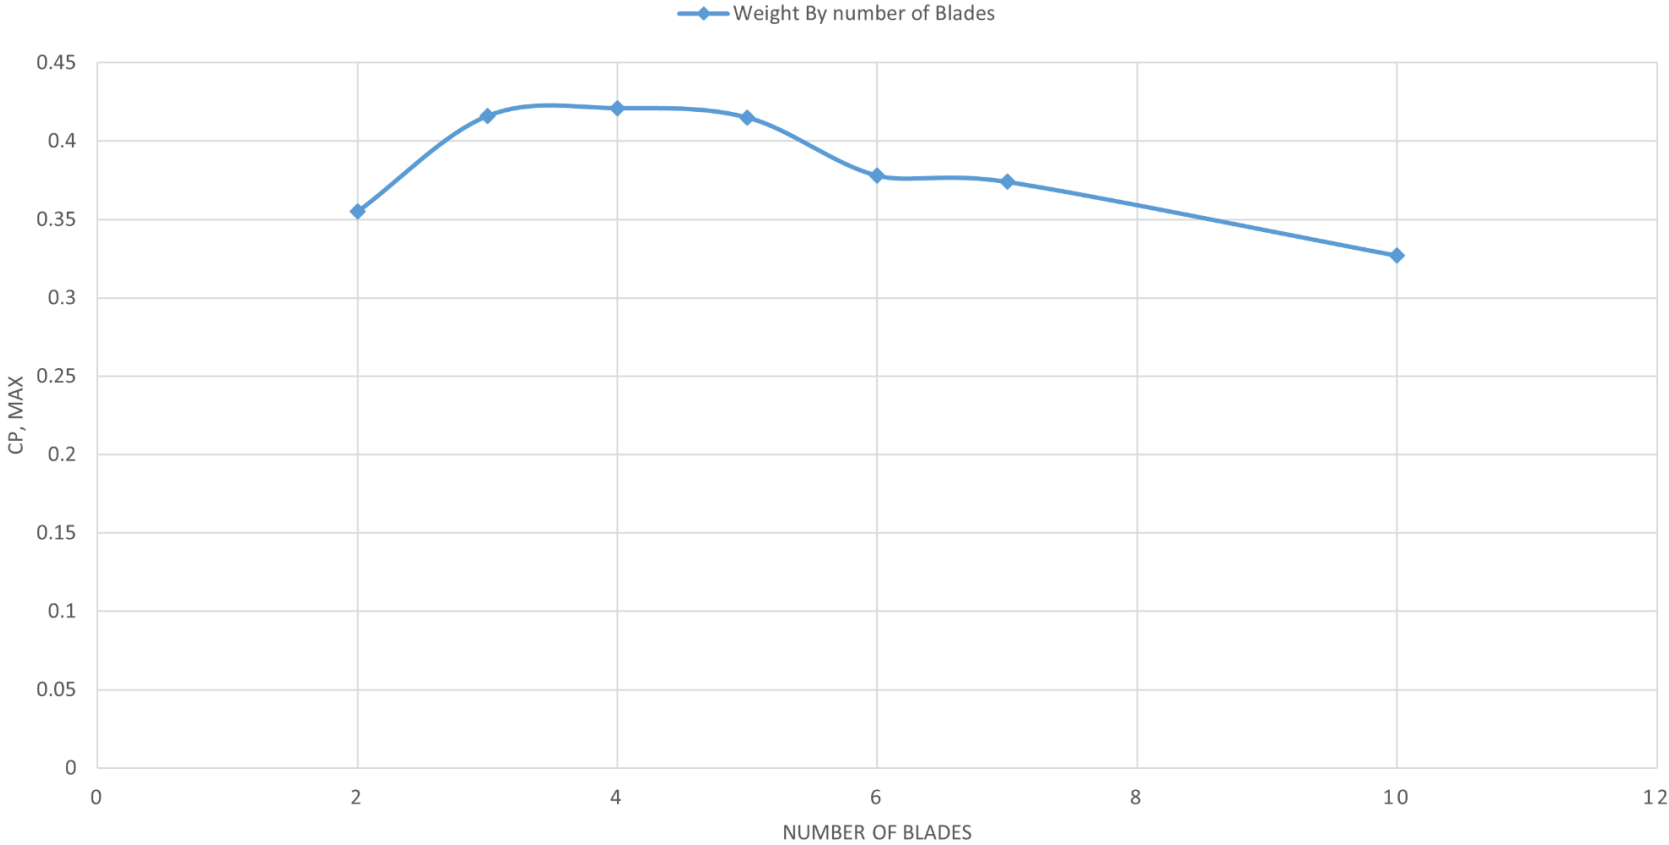

Figure 3
- The results are presented in Figure 2 and Figure 3.